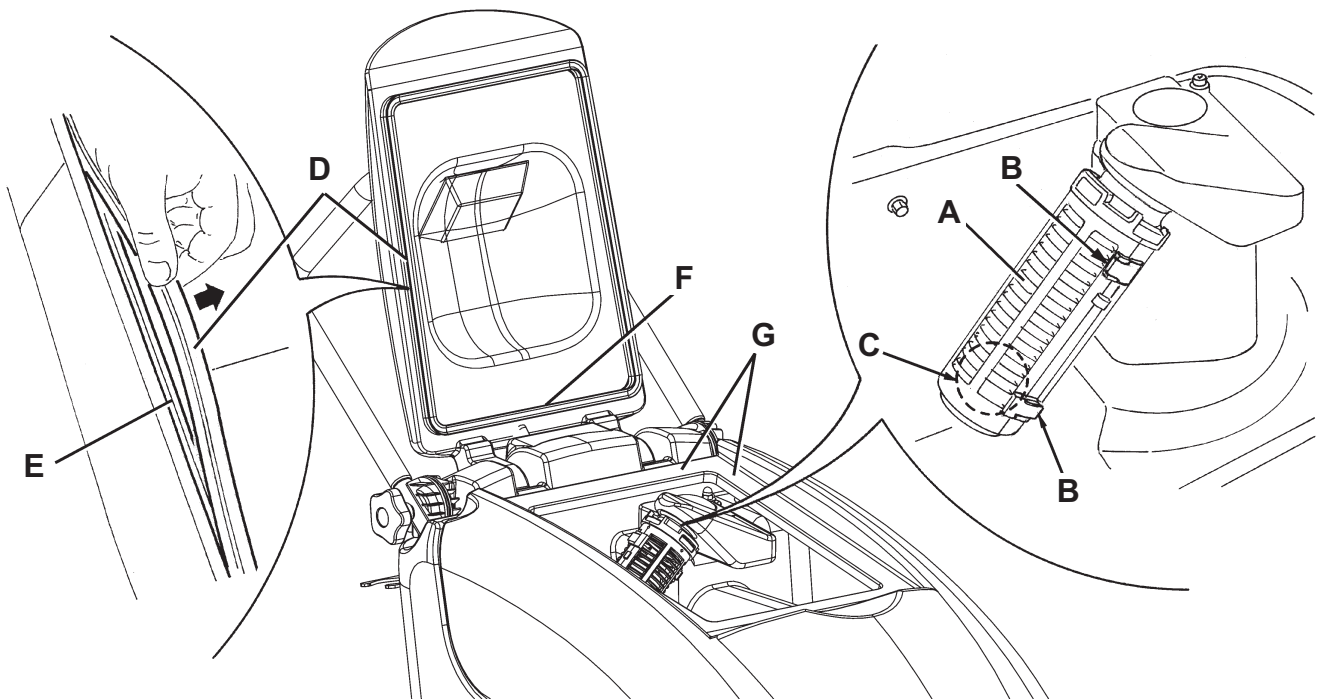

Figure 7
3. Open the cover (6), then clean and wash the cover, the tanks (31 and 32) and the vacuum grid (46) with clean water. Drain the water from the tanks with the drain hose (16) and the valve (18).
4. If necessary, release the retainers (B, Fig. 7), open the vacuum grid (A), remove the float (C), carefully clean and reinstall them.
5. Check the recovery tank cover sealing gasket (D) for integrity.